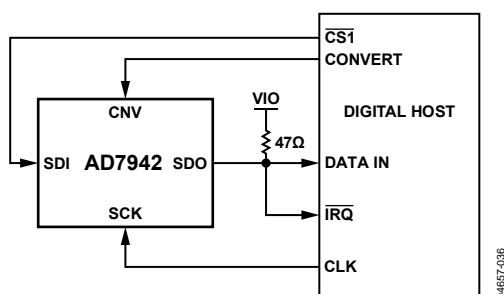
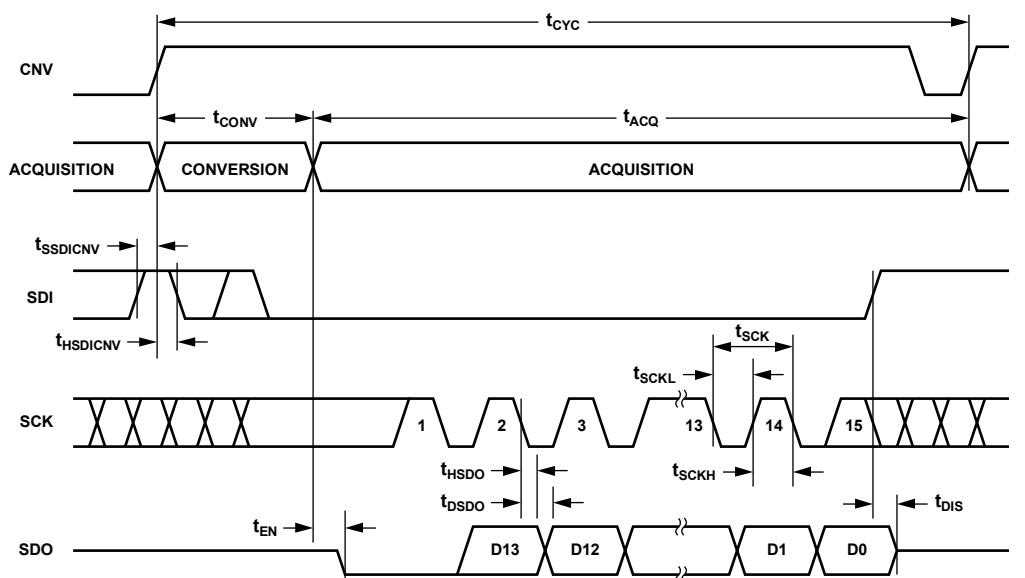

Figure 36.  $\overline{CS}$  Mode 4-Wire with Busy Indicator Connection Diagram
Figure 37.  $\overline{CS}$  Mode 4-Wire with Busy Indicator, Serial Interface Timing
- In the  $\overline{\text{CS}}$  mode, if CNV or SDI is low when the ADC conversion ends (see Figure 33 and Figure 37).
This mode is most often used when a single AD7942 is connected to an SPI-compatible digital host with an interrupt input and to keep CNV (which is used to sample the analog input) independent of the signal used to select the data reading. This requirement is particularly important in applications where low jitter on CNV is desired. The connection diagram is shown in Figure 36 and the corresponding timing diagram is given in Figure 37.